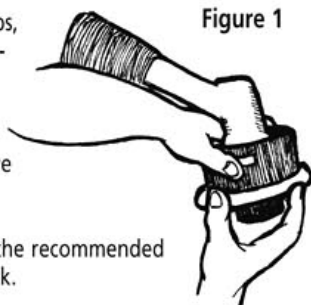

Figure 1
- Push in one or both of the locking tabs, releasing them from their notch (Figure 1) and pull on the rotary head cap.